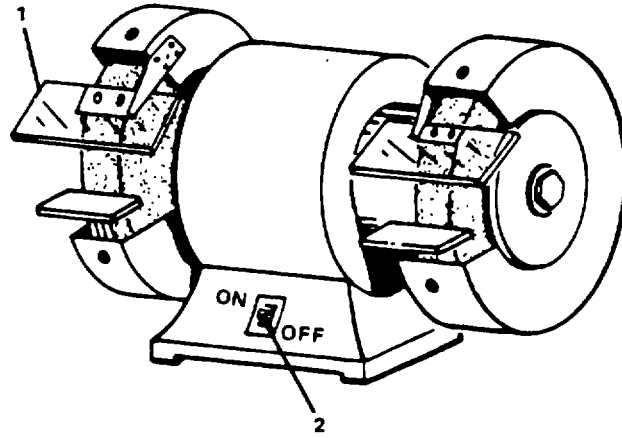

Figure 2-11. Bench Grinder Operation.
i. Set rocker switch (2, Figure 2-11) to OFF position.
a. Ensure eye shield (1, Figure 2-11) is properly attached.
b. Set rocker switch (2) to ON position.